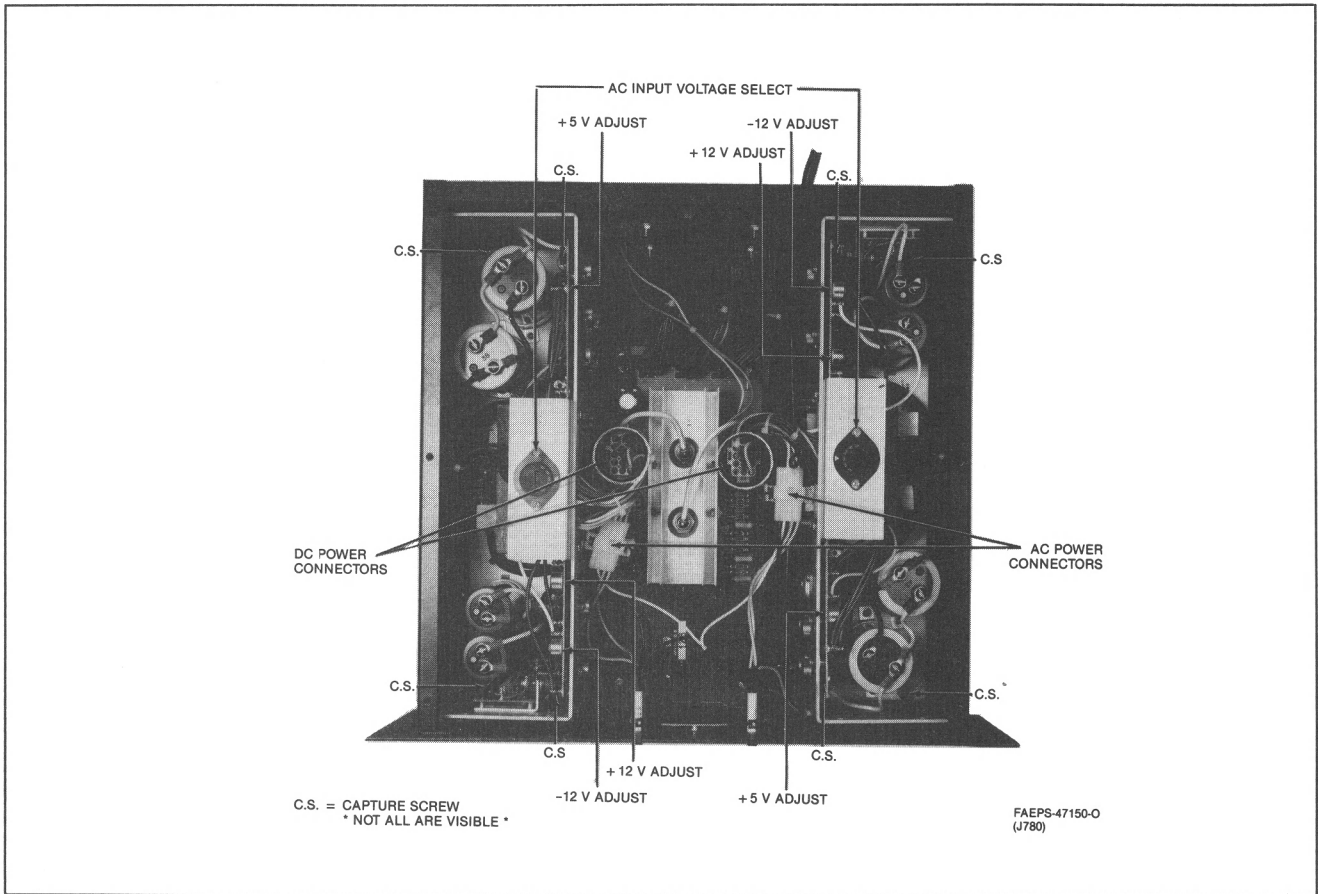

Figure 5. RDU Power Supply Internal Components Detail
These are also accessible by removing the top panel of the unit (see Figure 5).
Step 4. Coarse adjustment. Refer to Figure 5 and adjust potentiometers on live supply for the following resultant voltages at the RDU backplane:
Step 3. Refer to Figure 5 and disconnect ac and dc power connectors from share board of faulty supply.
Step 4. Refer to Figure 5 and unscrew the four capture screws holding supply to bottom of cabinet and carefully lift out faulty supply.